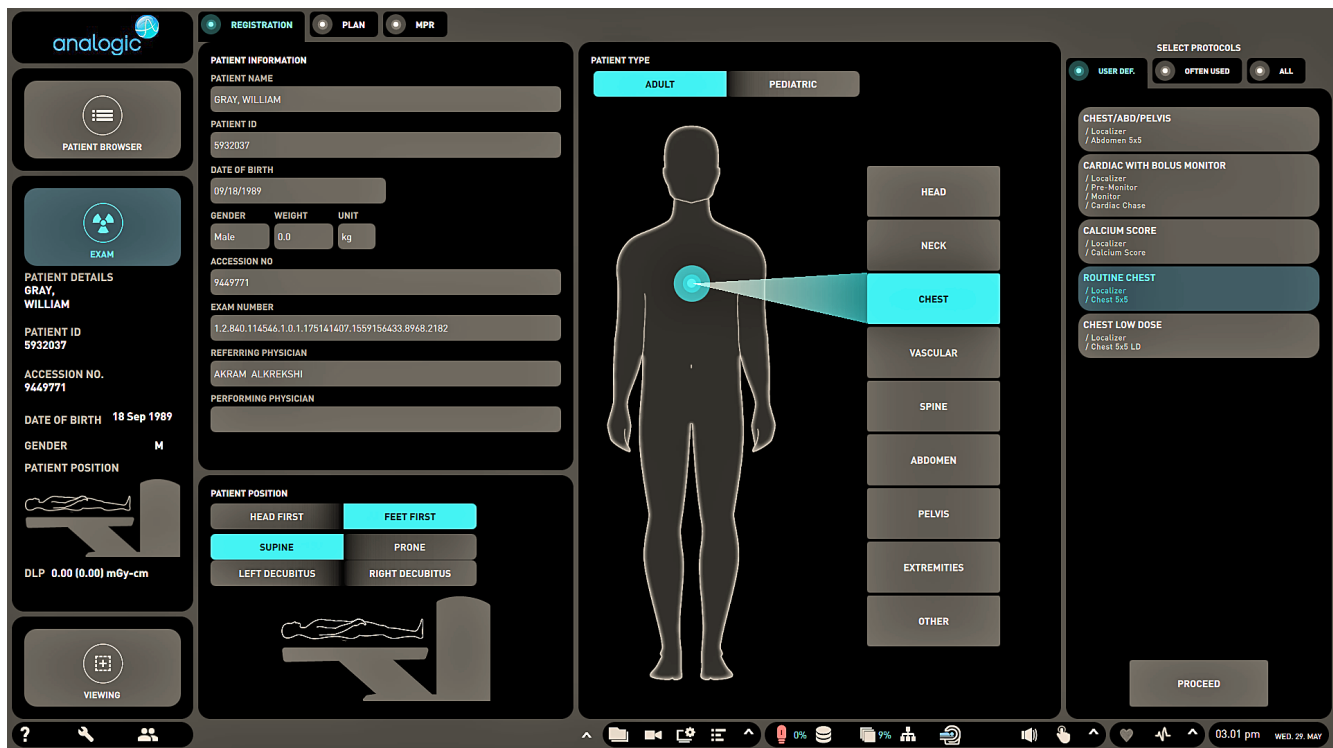

FIGURE 5.20 Protocol Selection based on Anatomical Region to Scan
- a. Select the anatomical region you want to scan (FIGURE 5.20). When you do so a list of possible protocols for the selected patient type and anatomical region displays under SELECT PROTOCOLS.
- In FIGURE 5.20 the PATIENT TYPE is ADULT
In FIGURE 5.20, a Routine Chest protocol was selected. Note that this protocol appears beneath the localizer scan in FIGURE 5.22.